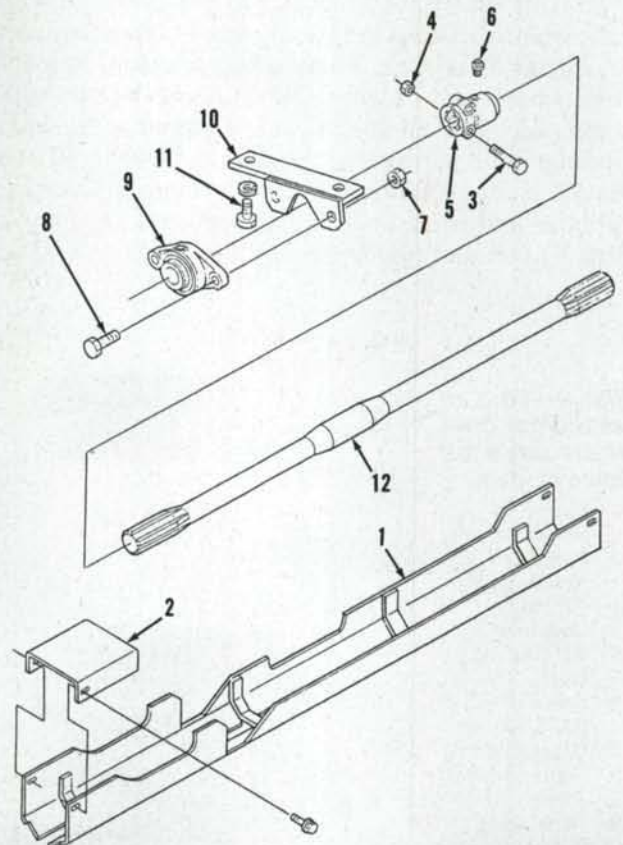

Fig. 7—View of drive shaft and shield used on most four-wheel-drive models. Waterproof drive shaft is shown in Fig. 8.
9. REMOVE AND REINSTALL. Standard and waterproof drive shafts have been installed. Refer to Fig. 7 or Fig. 8 and the appropriate following paragraphs.
To remove the standard drive shaft, first unbolt and remove the shield assembly (1—Fig. 7). Remove clamp bolts (3) from coupling, unbolt center bearing (9) from bracket, then slide couplings onto drive shaft and remove shaft. Grease couplings through fittings